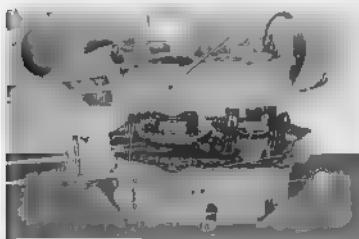

Fig. 3.85 Reassembling the crankcase.
2. Assemble the right crankcase (1) to the left crankcase. 2 (Fig. 3.85)
Caution Do not forget to install the two dowel pins, 3 (Fig. 3.85)